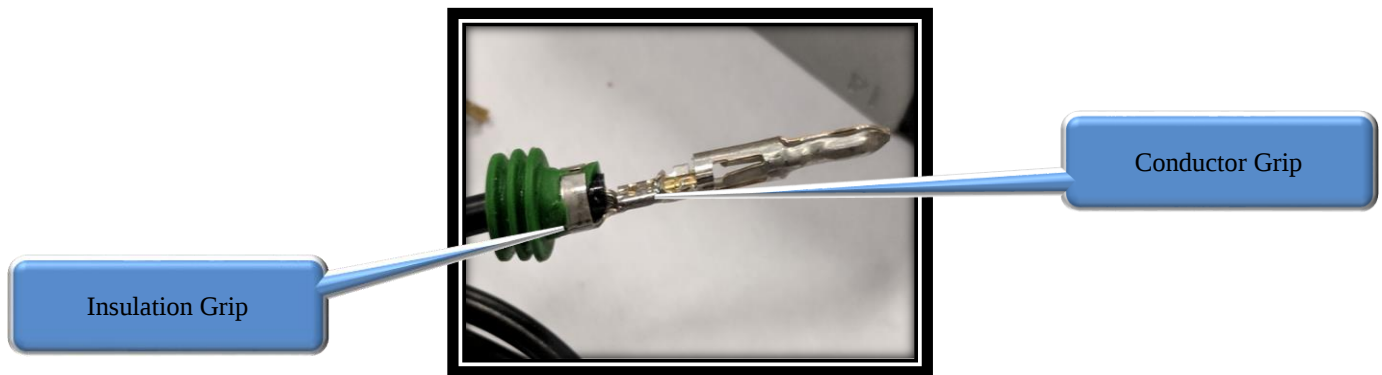

FIG 10.1
25. Insert 12010293 cable seal on to all wires during the crimping of 12124582 terminal pin on all wires. Inspect to ensure terminal is straight and not bent. Ensure the wire's conductors are crimped to the conductor grip of the terminal while the cable seal is crimped along with the wire's insulation grip. Refer to FIG. 10.1